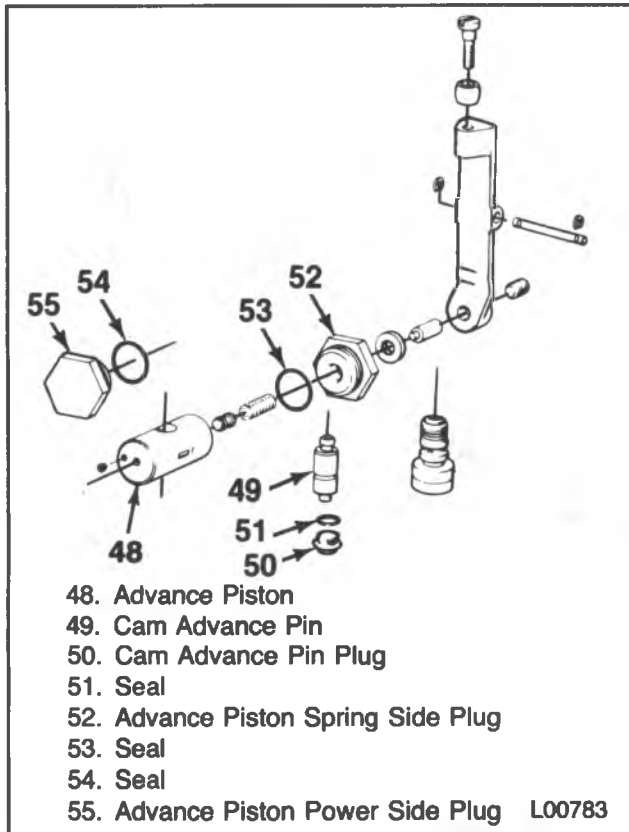

Figure 24 — Advance Piston Group
Remove or Disconnect (Figure 24)
Install or Connect (Figure 24)
Remove or Disconnect (Figures 24 through 28)
5. Cam advance pin plug (50) (figure 24).
7. Cam advance pin (49) (figure 24).
Install or Connect (Figures 24 through 28)
6. Cam advance pin (49) (figure 24).
7. New seal (51) on cam advance pin plug (50) (figure 24).
- Lubricate the seal (51).
8. Cam advance pin plug (50) (figure 24).